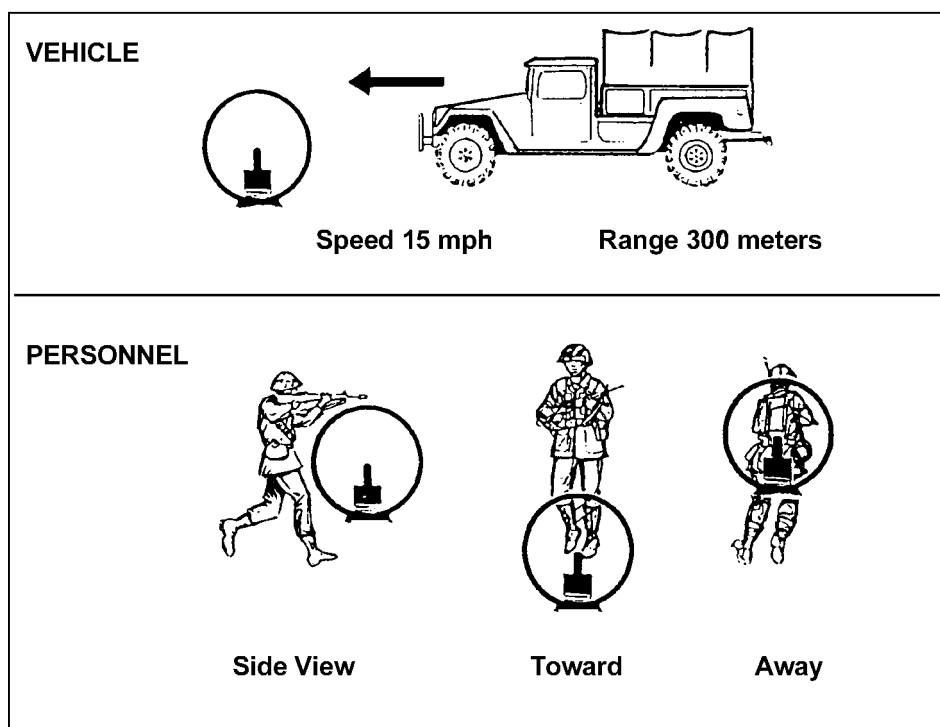

Figure 4-7. Moving-target aiming points.
a. **Leads**. To hit a moving target, the machine gun must be aimed ahead of the target far enough to cause the bullet and target to arrive at the same time at the same point. This distance is measured in target lengths. One target length as seen by the gunner is one lead. Leads are measured from the center of mass. Table 4-1 gives the amount of lead needed to hit a target moving at right angles, to the gunner, and at speeds and ranges indicated. The gunner makes adjustments as conditions change. If target speed is 7 1/2 mph, the amount of lead is half that shown on the table; at 30 mph, double that shown. The angle at which the target moves also changes the lead. If the target is moving on an oblique angle, only half the lead is required. For a target moving directly at the gunner, the aiming point is below the center base of the target depending on range and slope of the ground. For a target moving directly away from a gunner, the aiming point is above the center base of the target (Figure 4-7). Too much lead is better than too little because the target moves into the beaten zone, and observation of the strike of the rounds is easier in relation to the target.